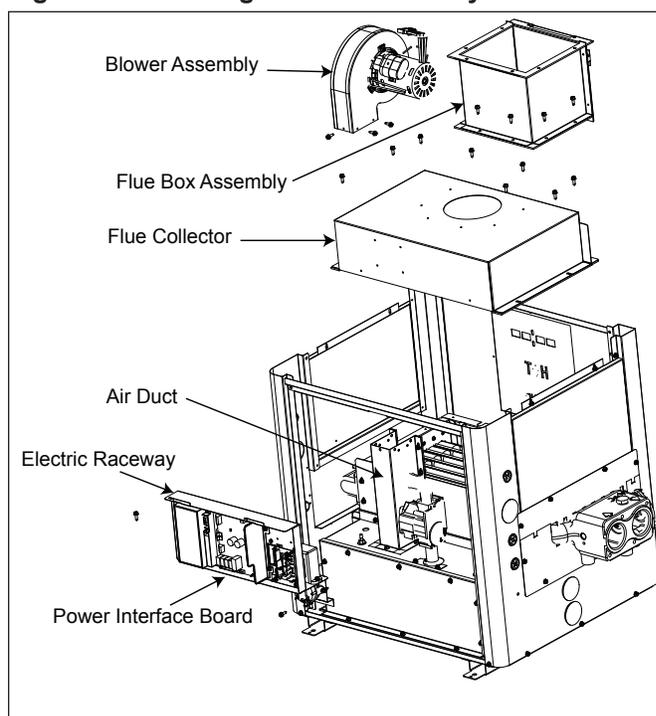

Figure 4. Removing Flue Collector
8. Remove the two (2) hex head screws that hold the electric raceway in place (see Figure 4). One mounts the pressure switch bracket to the burner panel. The second one is located at the top left side of the raceway next to the bracket door support.
15. Remove the 15 hex head screws holding the flue collector to the top of the combustion chamber. Remove the flue collector and set it aside. See Figure 4.
17. Remove the water pressure switch's copper tube from the header by first loosening the brass nut at the pressure fitting. Then carefully pull the tube out of the fitting. There should be about two (2) inches of tubing inside the header. Be careful not to create any kinks* in the tubing when handling it.